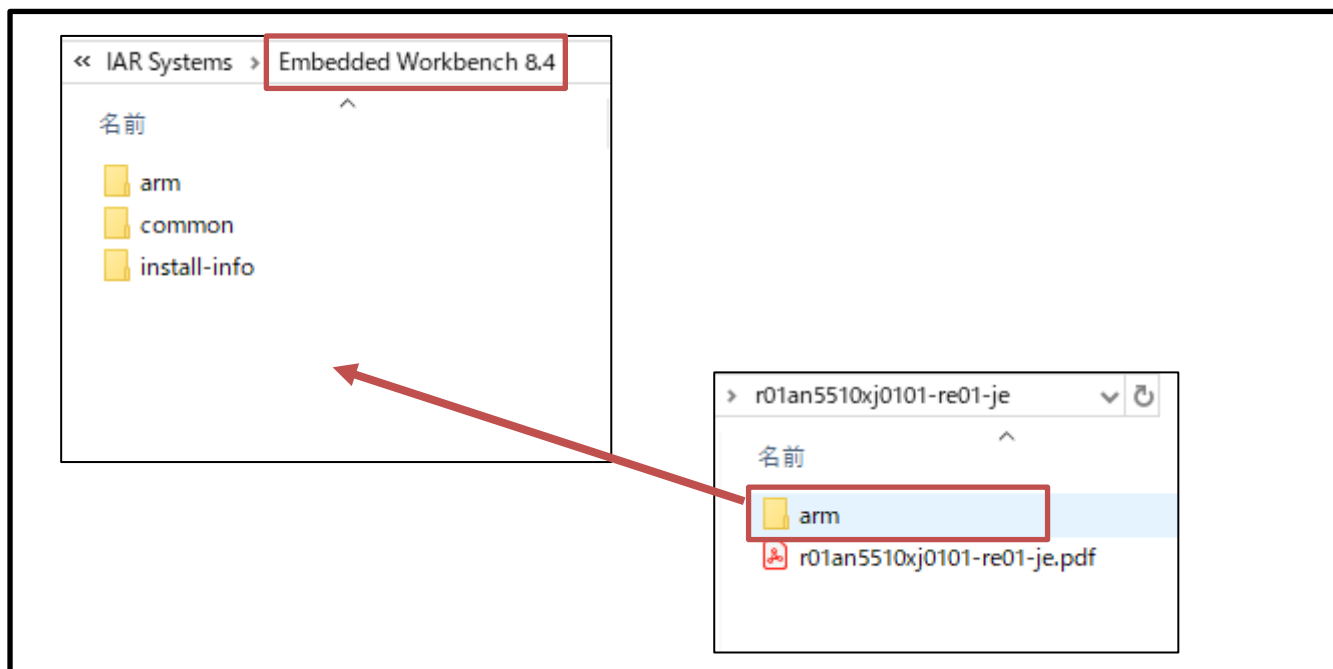

Figure 1. Example to overwrite device file patch
- Overwrite the unzipped arm folder over the arm folder within the EWARM installation folder (See Figure1). A message appears asking if you want to overwrite the file. Select “Yes”.